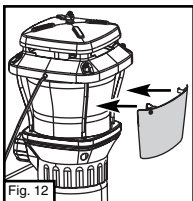

Fig. 12
■ Assemble reflector to back of lantern. Position the reflector clips onto the center of the two back rails and slide either upward into the reflecting position or downward into the storage position. (Fig. 12)